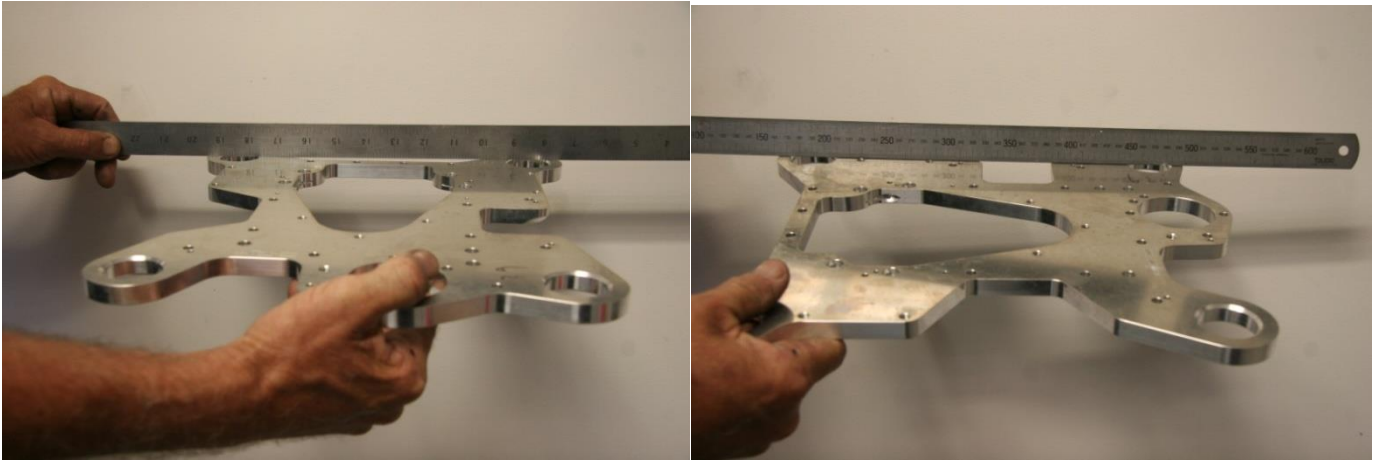

Figure 108 – Checking Engine Mount Plate Trueness
- Using a straight edge, carefully check the plate in both directions for trueness. Often an engine which has been in an accident or had a severe propeller strike will be bent. Figure 108 refers